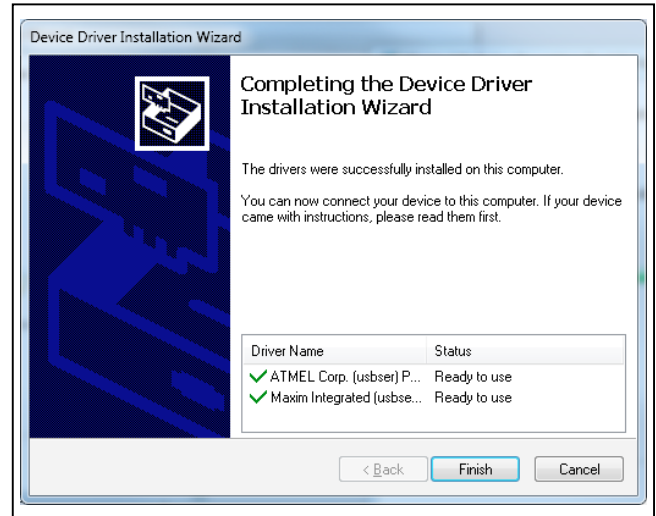

Figure 9. Driver Install (Step 3)
- 7) If the installation is completed successfully, a green checkmark should appear next to the two drivers (Figure 9).